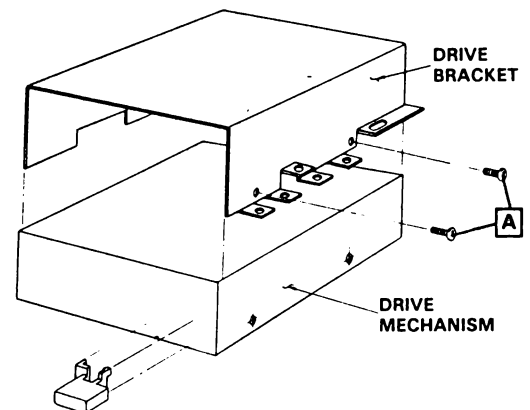

Fig. 3-3. Drive Assembly
3.2.1 Ensure that the DRIVE ASSEMBLY is properly installed in the drive BRACKET with the 4 side screws. See Fig. 3-3. Check that the DISK EJECT BUTTON and LED ASSEMBLY are properly installed.